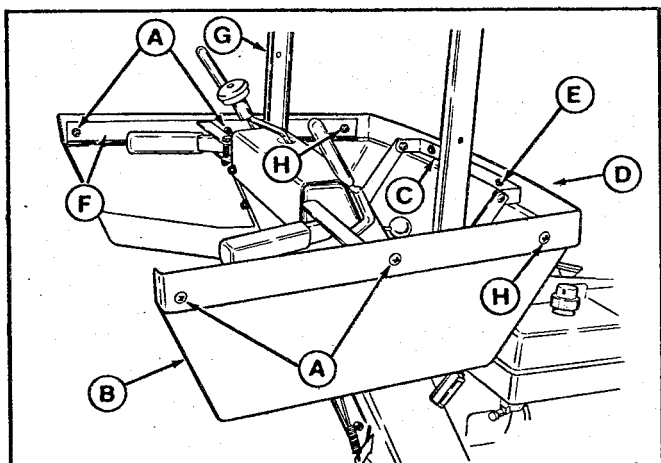

Figure 6
7. Position the lower cover (B, figure 6), aligning the three holes in each side with the holes in the panel support brackets. Insert two screws (A) in the rear holes on each side to hold the lower cover in place as shown in figure 6. Install nuts on ends of the screws to hold in place.